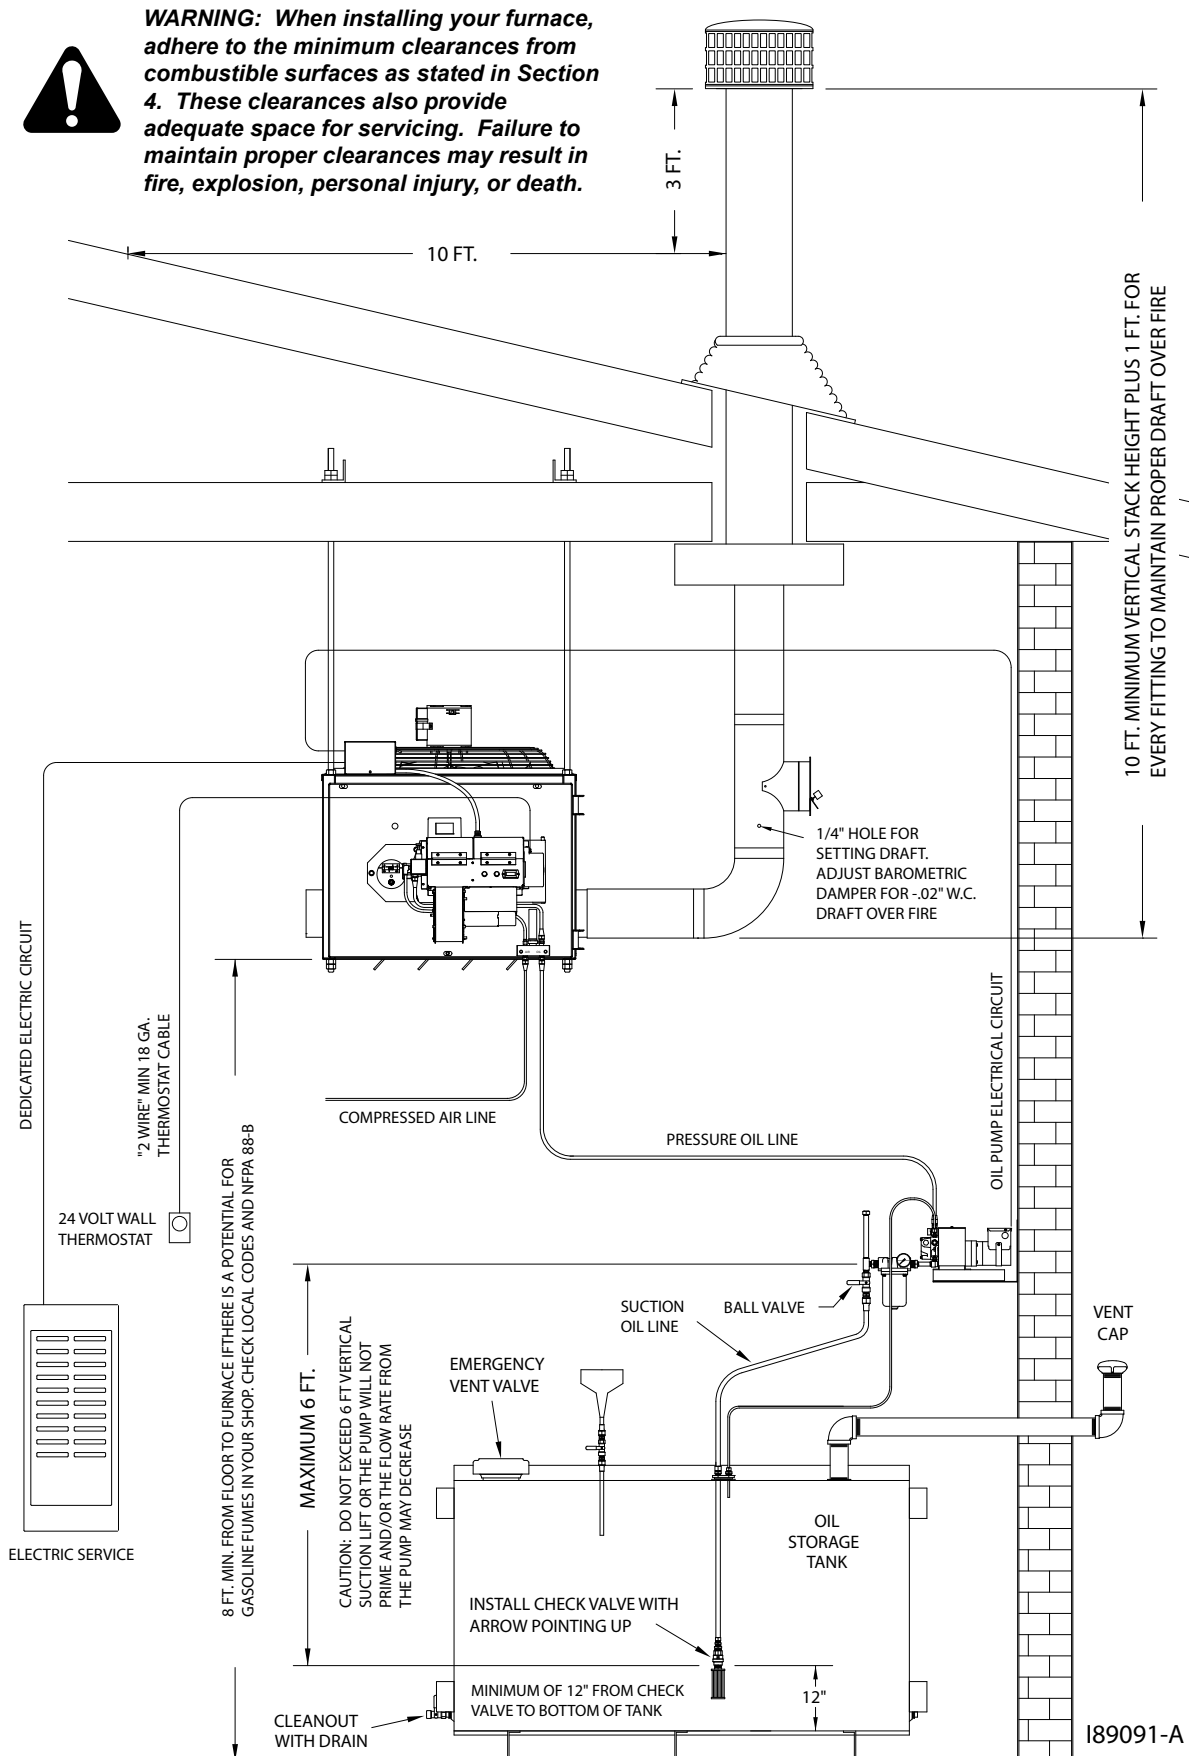

Figure 4A - Typical CB-140 Furnace Installation
Clean Burn recommends that you review all procedures before beginning installation, paying careful attention to safety information statements. Figure 4A and 4B provide a general overview of a typical furnace installation and should be reviewed closely before proceeding.
- For optimal system functioning, Clean Burn Recommends inside tank installations as shown in Figures 4A, 4F, and 4J.
- Carefully review the oil tank and pump installation details as shown in Figures 4A, 4F, and 4J. Pertinent information also supplied with the metering pump and oil line installation procedures (following in Sec. 4).